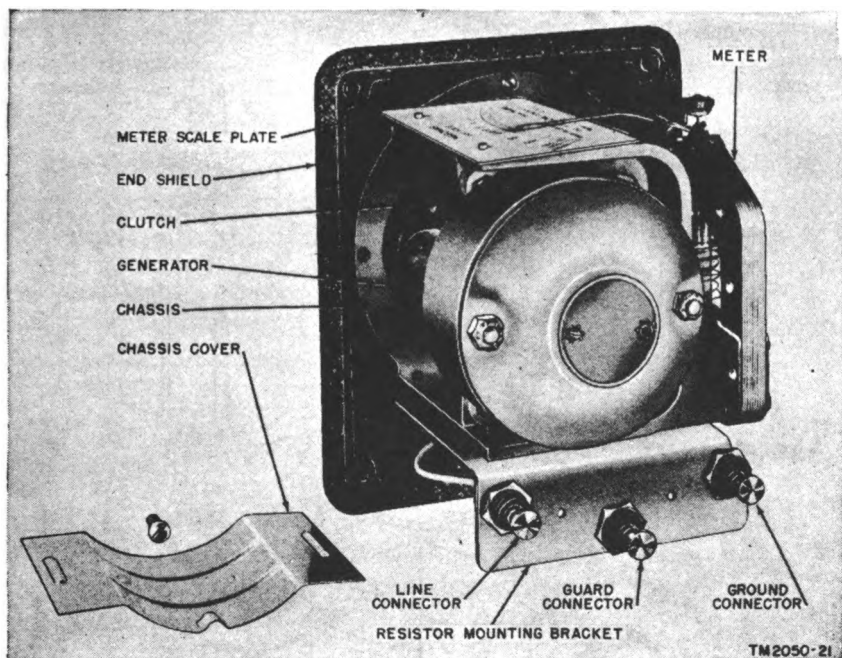

Figure 6. End shield and chassis assembly of ohmmeter ZM-21A/U.
- (2) On Ohmmeter ZM-21A/U, spring-type connectors (fig. 6) are used, instead of wires, to make internal connection to the binding posts.